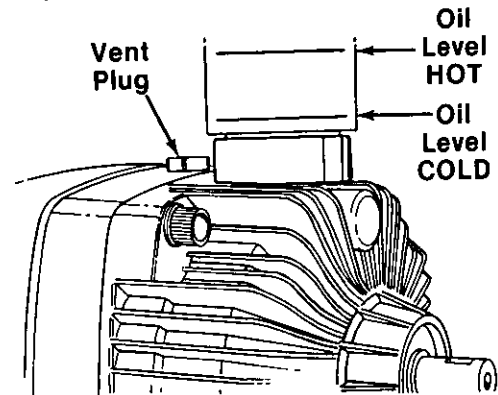

FIGURE 21.
The transmission fluid level should be checked prior to initial use. The level should not be above the COLD mark which is about ¼" from the bottom of the reservoir/expansion tank. See figure 21.
3. Check the oil level in the reservoir/expansion tank. See figure 21.
To fill the hydrostatic transmission, remove the vent plug located next to reservoir/expansion tank to prevent an air lock. Replace vent plug. See figure 21.